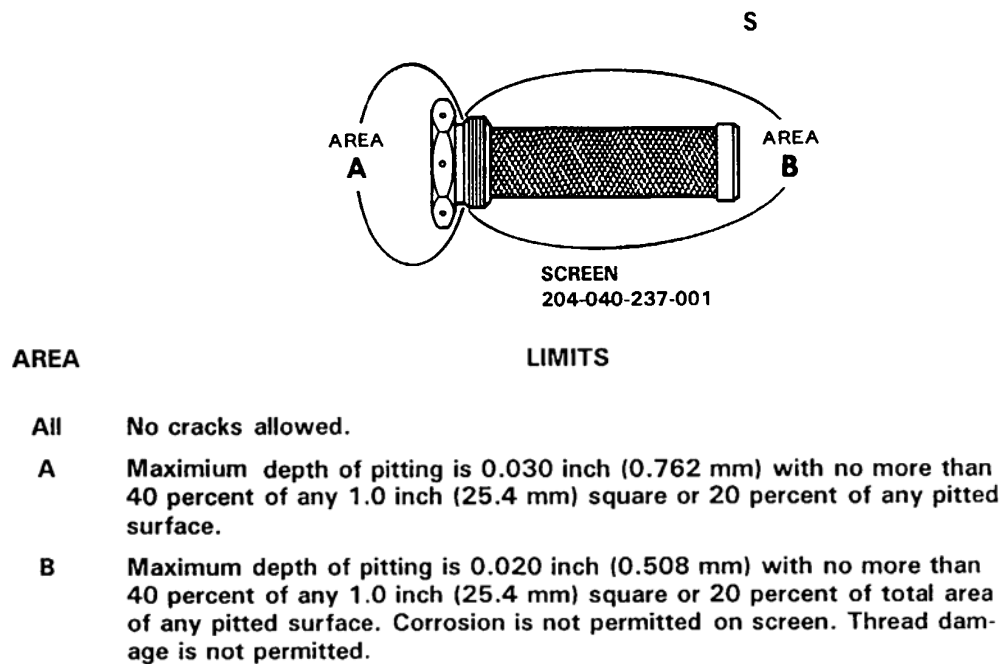

Figure 63-35. Damage Limits – Oil Pump Inlet Screen
63.5.18.1.4 Inspect screen for metal particles or other contamination and for damage. (Figure 63-35).
63.5.18.3.2 Inspect screen for damage in accordance with Figure 63-35.
63.5.18.4.1 Install screen (1, Figure 63-35) with a new packing (2), into sump case (3). Torque screen assembly 300 to 400 inch-lbs. (33.90 to 45.19 Nm) and secure to adjacent chip detector plug with lockwire (C-405).